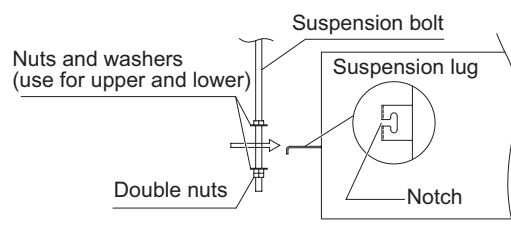

Fig. 2-133
- (3) Thread the 3 hexagonal nuts and 2 washers (field supply) onto each of the 4 suspension bolts as shown in Fig. 2-133 and 2-134. Use 1 nut and 1 washer for the upper part, and 2 nuts and 1 washer for the lower part, so that the unit will not fall off the suspension lugs.